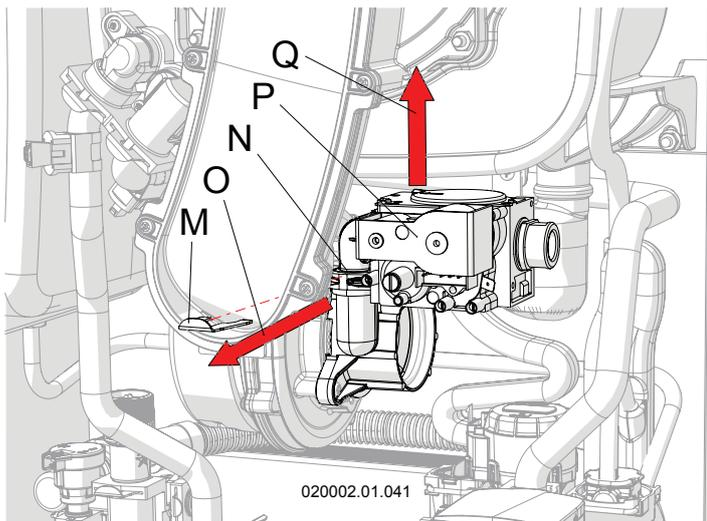

Figure 6-3 – Removing the gas valve
8. - Remove clamp spring “M” from seat “N” releasing valve “P” (see figure 6-3);
11. - Refit the gas valve (see figure 6-3, detail “P”), making sure to reposition spring “M”;